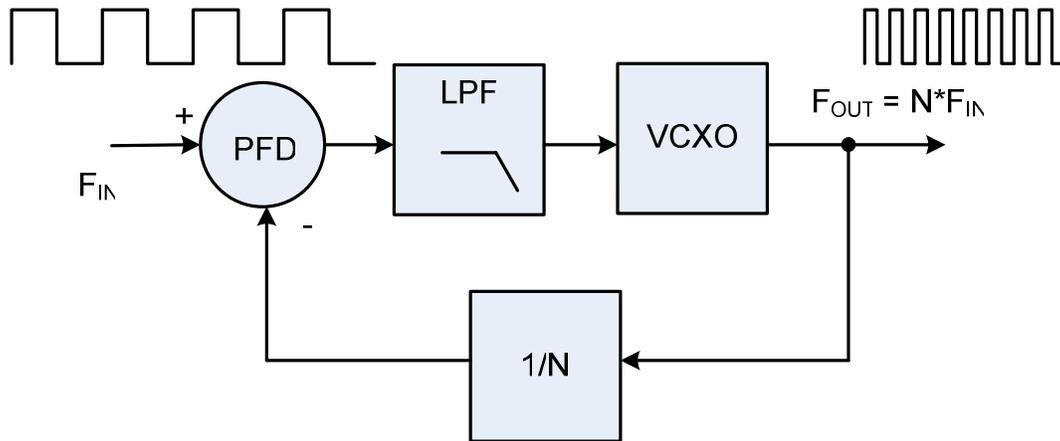

Figure 1: Typical PLL block diagram
Figure 1 shows a simple PLL block diagram. A reference clock supplies an input frequency, F_{IN} . A Phase Frequency Detector (PFD) compares the phases of the input clock and the output clock, and generates a periodic error signal based on the phase difference. This periodic signal is low-pass-filtered through a loop filter (LF), and passed as an analog control voltage to the VCXO input.
Figure 1 shows frequency vs. voltage (FV) characteristics for both a typical quartz VCXO and a SiTime VCXO. The grey bands illustrate how far the FV characteristics can vary with conditions, and demonstrate the difference between nominal, or total, pull range, and APR. The APR must be larger than the maximum expected reference frequency variation. Otherwise, the PLL may not be able to track the reference input frequency.